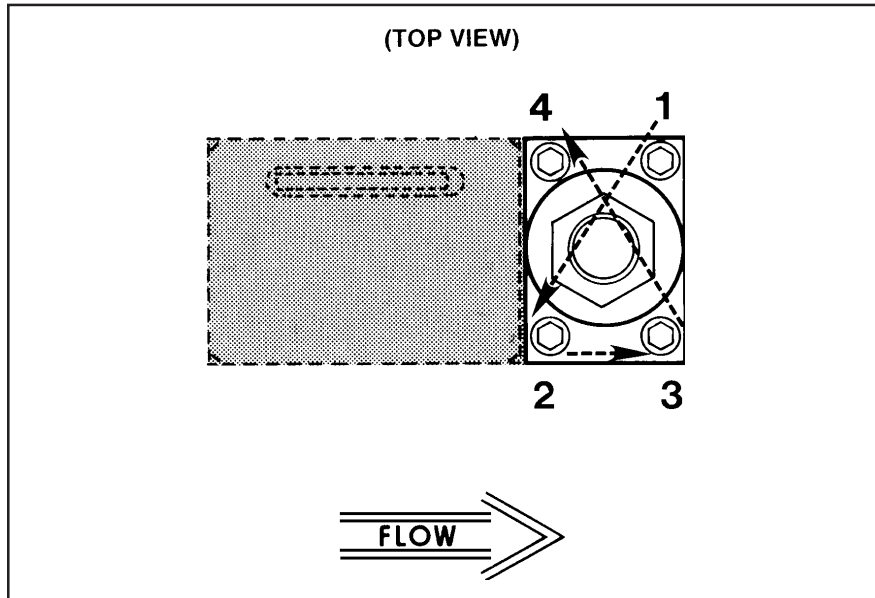

Figure 4-1 Torque Sequence for the Valve Retainer Plate
4. Press the lubricated sensor O-rings (17) into the flow controller body (14). Install the sensor assembly and secure with two screws (18) and washers (19) and tighten to 15 in./lbs.
5. Install the orifice (12) and its O-ring (13) using a 3/8 nut driver. Insure that the orifice is fully seated but do not overtighten.
6. Insert the valve preload spacers (10), if used, into the valve cavity in the flow controller body (14). Use care to preserve the correct order.
7. Install the valve plunger assembly (7, 8, 9 and 11) on the preload spacers (10). Install air gap spacers (10), if used, on top of the valve springs.
8. Install the valve stem assembly (6), secure with the valve retaining plate (4) and four hex socket screws (3). When installing the screws, they should first make light contact with the plate which should be checked to insure that it makes full contact around the stem assembly. Torque the screws securing the valve retaining plate in a diagonal pattern (Refer to Figure 4-1) to 15 in./lbs.
9. Install the coil assembly (2) over the valve stem assembly (6) and secure with a jam nut (1).
10. Install the PC Board (15), secure with the bracket (24) and two screws. Plug the connector from the sensor assembly onto the PC Board. The flow arrow on the connector should be pointing toward the valve assembly.
11. Install the electronics cover (23) on the controller, secure with three screws (20). Plug the connector from the valve coil into the PC Board through the hole in the electronics cover.